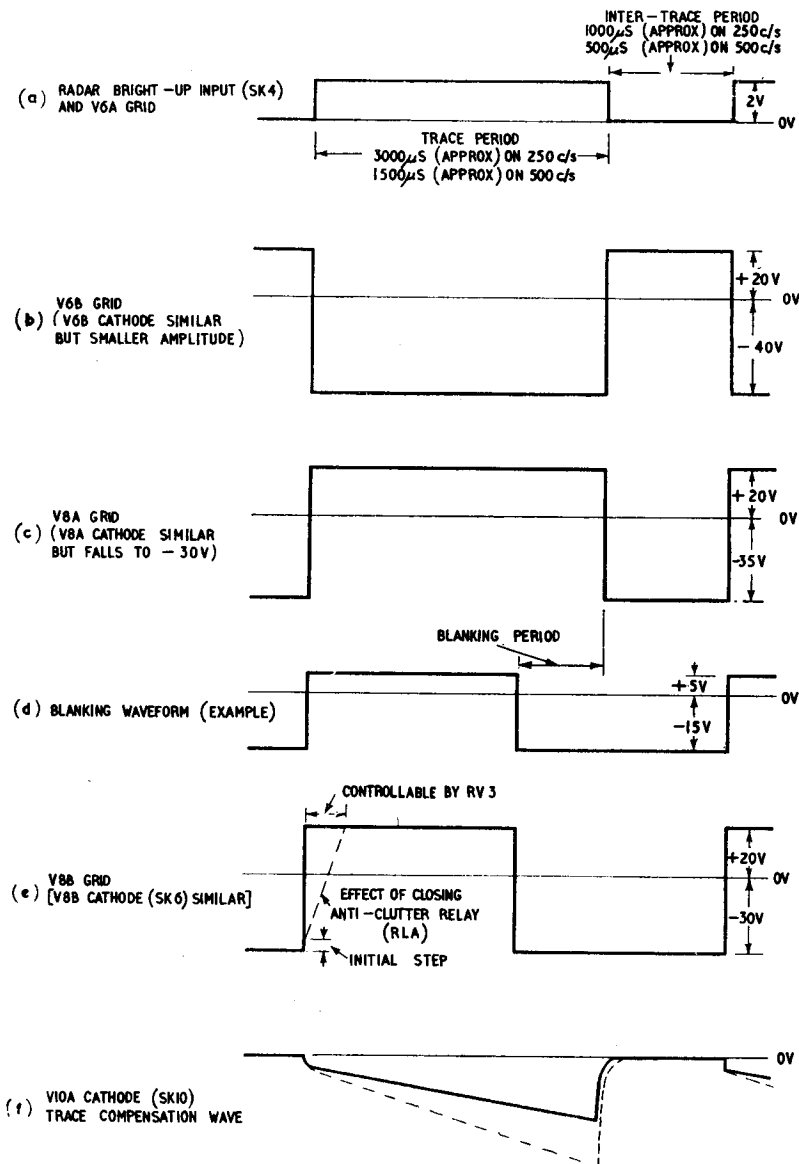

Fig. 7. Waveform generator Type 80—waveforms
25. The radar bright-up wave appears at SK4, where its line is terminated by the 68Ω resistor R2. It has an amplitude of about 2V (waveform (a), fig. 7), and is positive-going during the trace period. The bright-up duration is approximately 3,000 μS when a 250 c/s radar head is being displayed, and approximately 1,500 μS for a 500 c/s head. The correct radar bright-up wave is automatically routed to the console by the head selector unit when the operator sets his head selector switch.
26. V6A is a straightforward triode amplifier with a 47 KΩ anode load R31; in the absence of any signal it passes about 4mA. Its gain is about 30, and so a phase-inverted rectangular wave of some 60V amplitude is applied to the grid of V6B via the coupling network C9, R34. V7A is a DC-restoration diode with its cathode returned to the junction of R32 and R33. This junction is at +20V; the rectangular wave at V6B grid is thus kept wholly below the +20V level (waveform (b), fig. 7).
28. The resulting rectangular wave of about 55V amplitude from V6B anode is applied via the coupling network C10, R41 to the grid of a triode cathode-follower V8A. A diode V7B is connected to provide DC-restoration positive with respect to -33V, this being the potential at the junction of R42 and R43 to which the diode and the grid resistor R41 are returned (waveform (c), fig. 7). The cathode load of V8A total 66 KΩ, and is returned to the -300V line so that the output,
32. If the relay A is closed (ANTI-CLUTTER ON), then in addition to the stray capacitances referred to in para. 31, capacitors totalling 0.007 μ F are connected from V9B cathode to earth through a 22 K Ω resistor R50. Instead of assuming its positive potential quite quickly at the start of the trace period therefore, V9B cathode (and V8B with it) rises exponentially as C12 + C13 charge towards RV3 slider potential through the 220 K Ω resistor R55. When they reach +20V, V9A conducts and they rise no further. Thus only the first, fairly linear, portion of the charging curve is utilized; this linear slope appears at the beginning of the video gating wave (*waveform (e), fig. 7*), and constitutes the anti-clutter waveform. The complete video gating wave is fed out from V8B cathode via SK6. The potential set by RV3 forms the "aiming potential" for the charging of C12 + C13, and therefore controls the anti-clutter slope and duration. Without V14 there would be a tendency for a vertical step to appear at the start of the anti-clutter waveform, due to initial charging current through R50, but this is much reduced by the forward resistance of V14, which is a germanium diode (CV448), in parallel with R50.